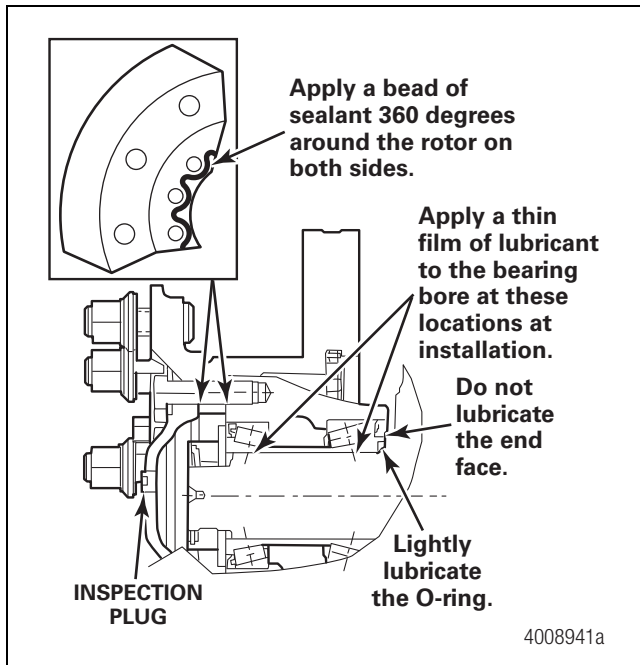

Figure 6.24
6. Apply a bead of anaerobic sealant such as Loctite® 518 Gasket Eliminator 360 degrees around the rotor on both mating surfaces and on the inside of the bolt circle. Figure 6.24. You must apply the sealant before you assemble the rotor and wheel adapter to prevent moisture from entering into the bearing. Do not use any type of gasket sealant other than anaerobic sealant.